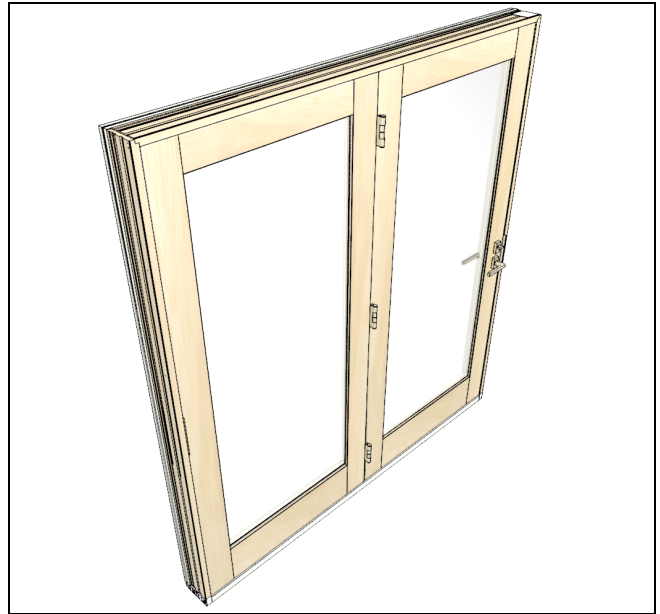

Figure 19
2. Fasten unit to wood buck/rough opening with #8 x 3" wood screws. Screws must be a minimum of 1" from edge of buck. Place the screws 6" from each corner and a maximum of 15" apart, with a minimum of 2 per side. See Figure 19.